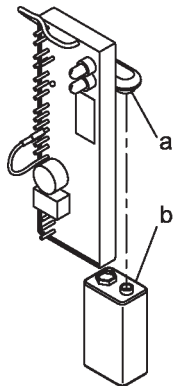

Fig. 4: Battery replacement
4. Insert new battery into the connection clip (see Figure 4).